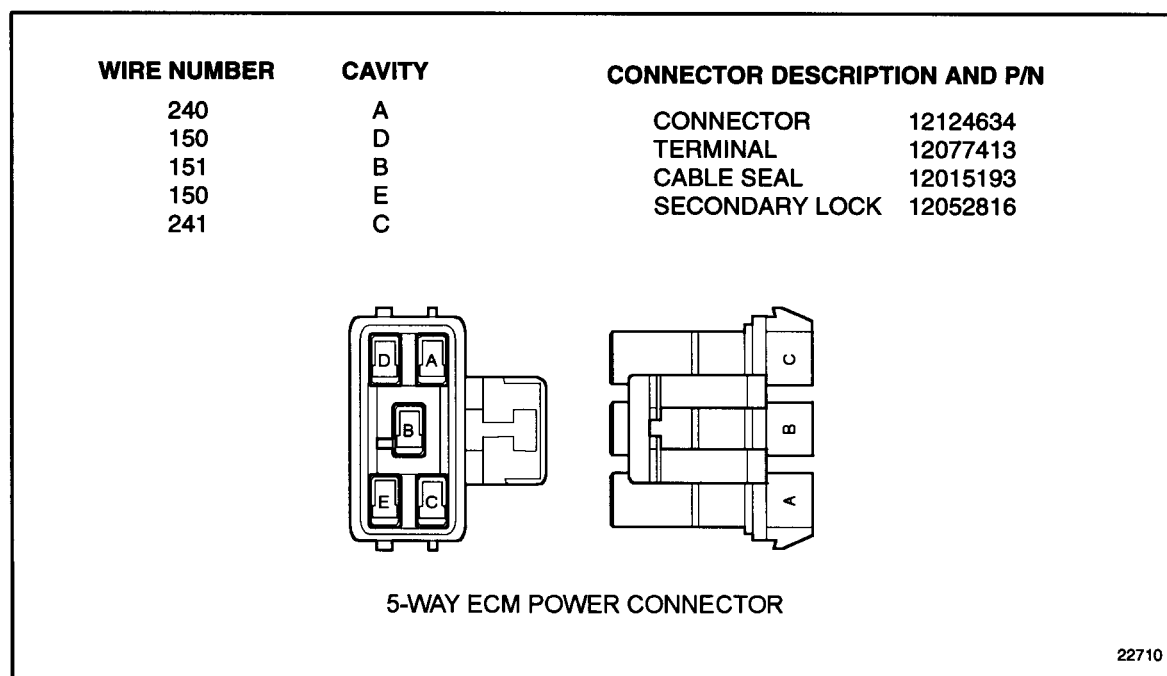
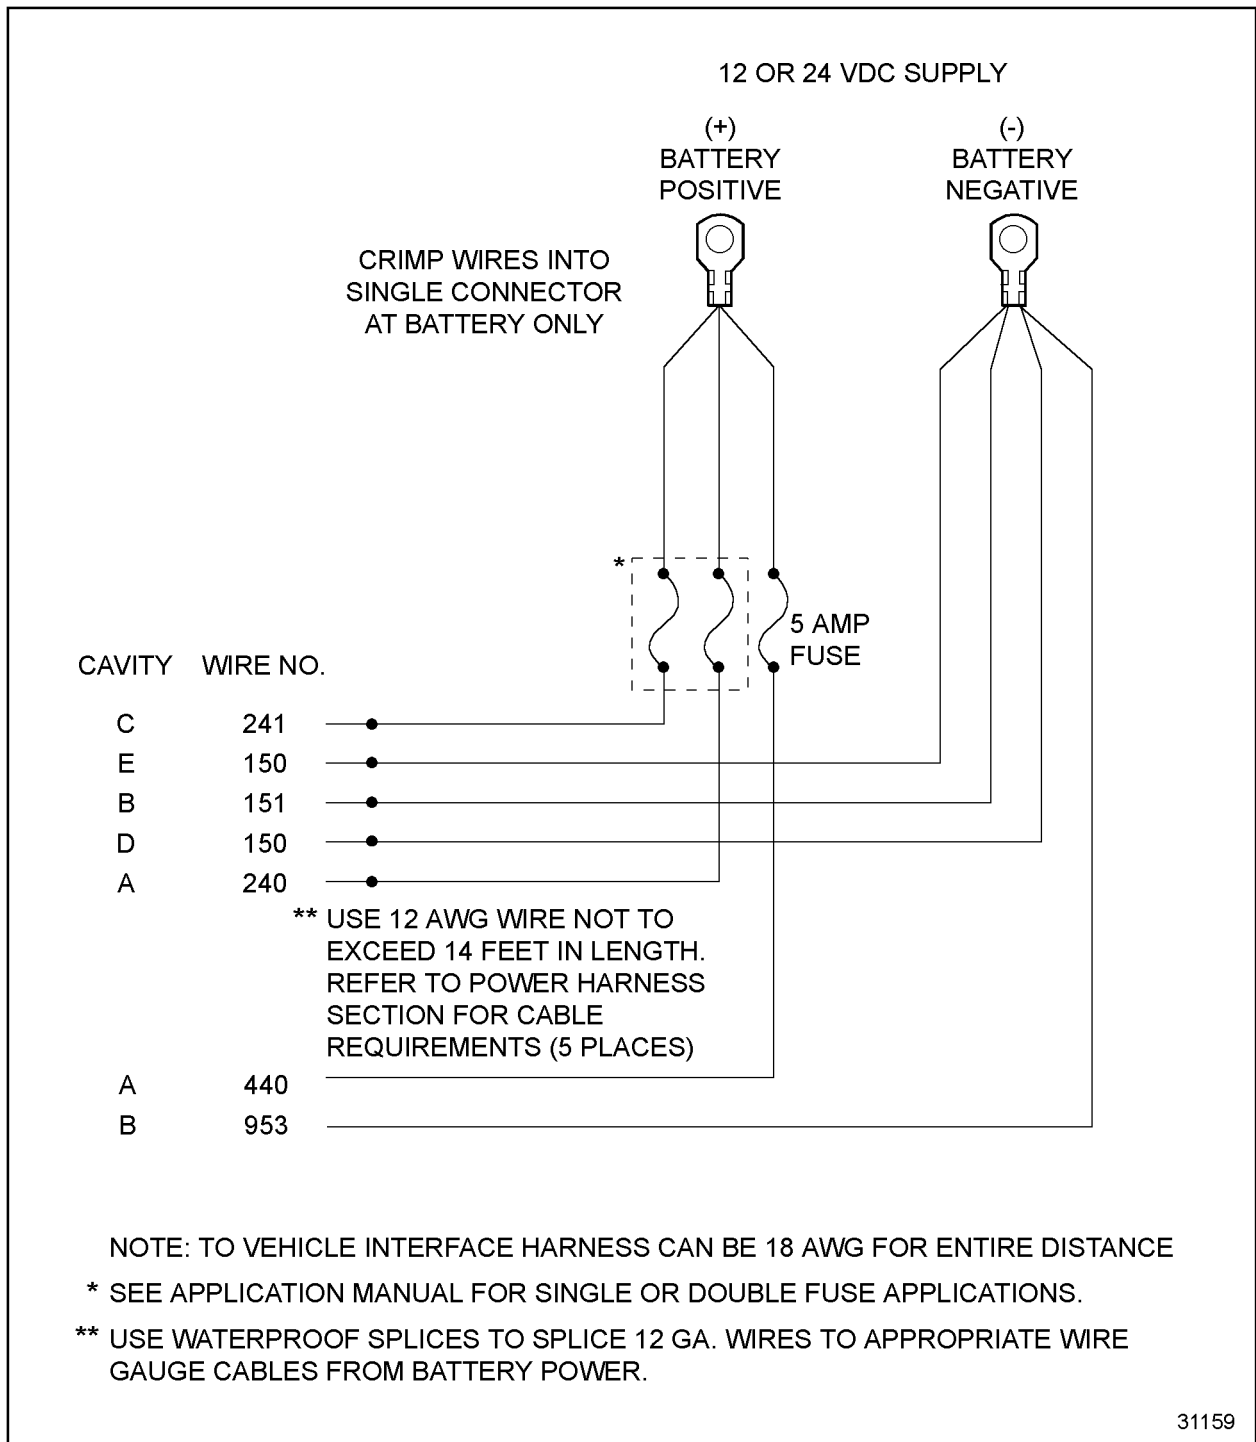

Figure 46-1 5-Way ECM Power Connector
Figure 46-2 Power Harness
3. Measure voltage from socket A and C (red lead) of 5-way power harness connector and a good battery ground (black lead). Don't use line (#151) as a ground reference. For 5-way ECM power harness connector, see Figure 46-1. For power harness schematic, see Figure 46-2. For Series 4000 power harness schematic, see Figure 46-3. See Figure 46-4, for the Series 4000 engine power harness.